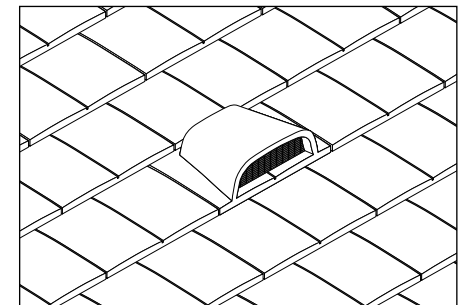

Fig. 7 - Continue tiling
- 6 Lay adjacent tiling in normal manner (Fig. 7).